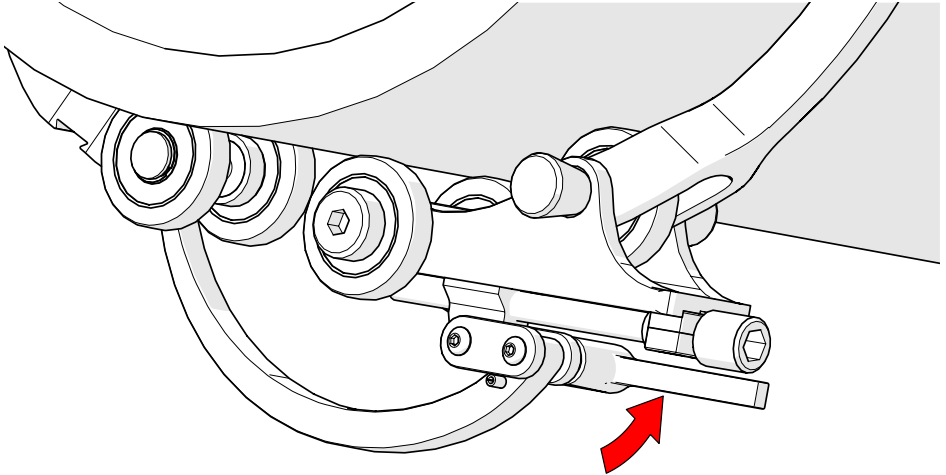

Fig. 88 - Press down to lock
7. Rotate the buckle adjustment knob until the buckle's lever can be pushed down, locking the buckle in place (Fig. 88). The tightness of the **ROTIX** on the pipe can be adjusted using the buckle adjustment knob (Fig. 87-1).